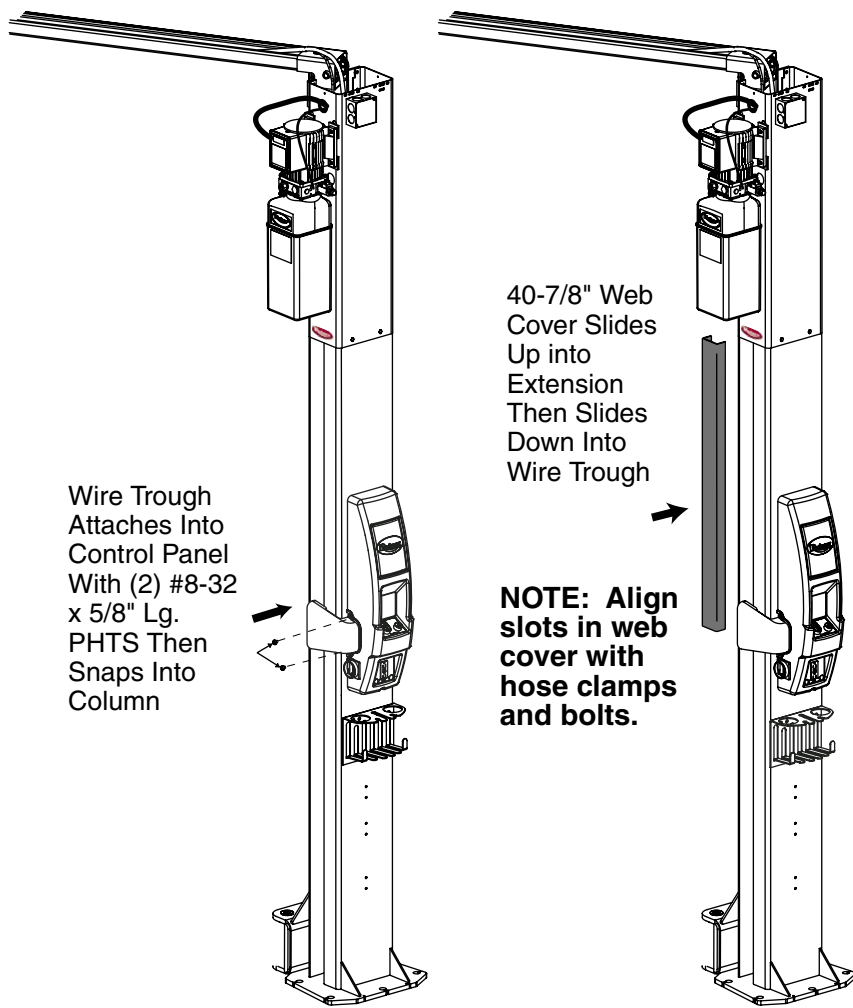

Fig. 31
**Fig. 31:** Start by wire tying all the wires and hoses neatly and out of the way of the cables. Push the connectors made at the master control panel into the master enclosure and make sure cables transition smoothly from the wire trough into the master enclosure. Take one of the wire troughs and attach it to one of the control panels with two #8-32NC x 5/8" Lg. PHTS. Snap the front of the wire trough into the column. Next slide the web cover up into the column extension and then down into the wire trough. **NOTE: Align slots in web covers with hose clamp and bolt.** Repeat for other column. Adjust covers accordingly to make sure hoses and wires are covered.